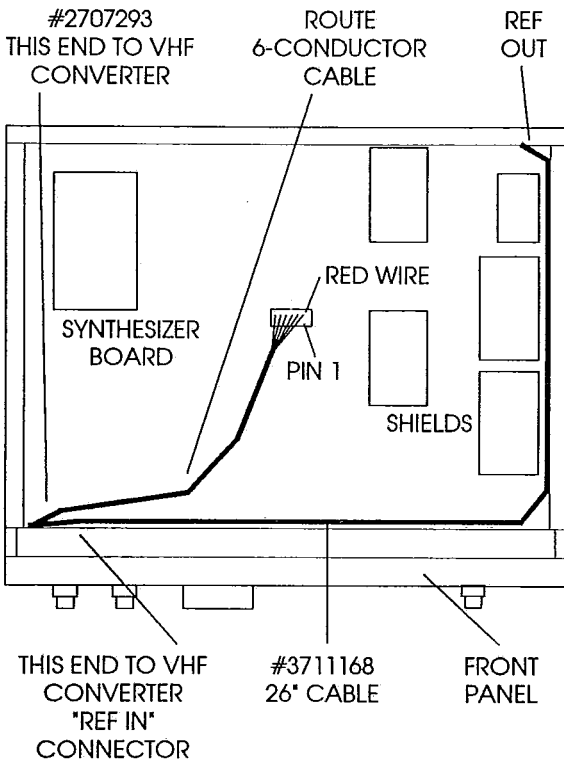

FIGURE 4 R8 BOTTOM VIEW
6) With the converter assembly now secured in the chassis with 6-conductor cable attached, position the R8 so it rests on its left-hand side (facing front of receiver). Locate the unconnected end of the 6-conductor cable and connect it to the synthesizer board connector in the orientation shown in Figure 4. Be careful to align the **RED** conductor on **Pin 1** of the synthesizer board assembly connector header. Position the cable assembly so that it routes as shown. Reduce any excess slack cable length near the VHF converter to provide the proper routing on its approach to the synthesizer board connector header.
7) Connect the supplied 26" "REF" coaxial cable #3711168 to the 'REF OUT' connector located near the right rear corner of the synthesizer board. Position the cable as shown in Figure 4, routing the free end of the coax cable along the front panel (near volume control) and up to the VHF Converter assembly end nearest the front panel.